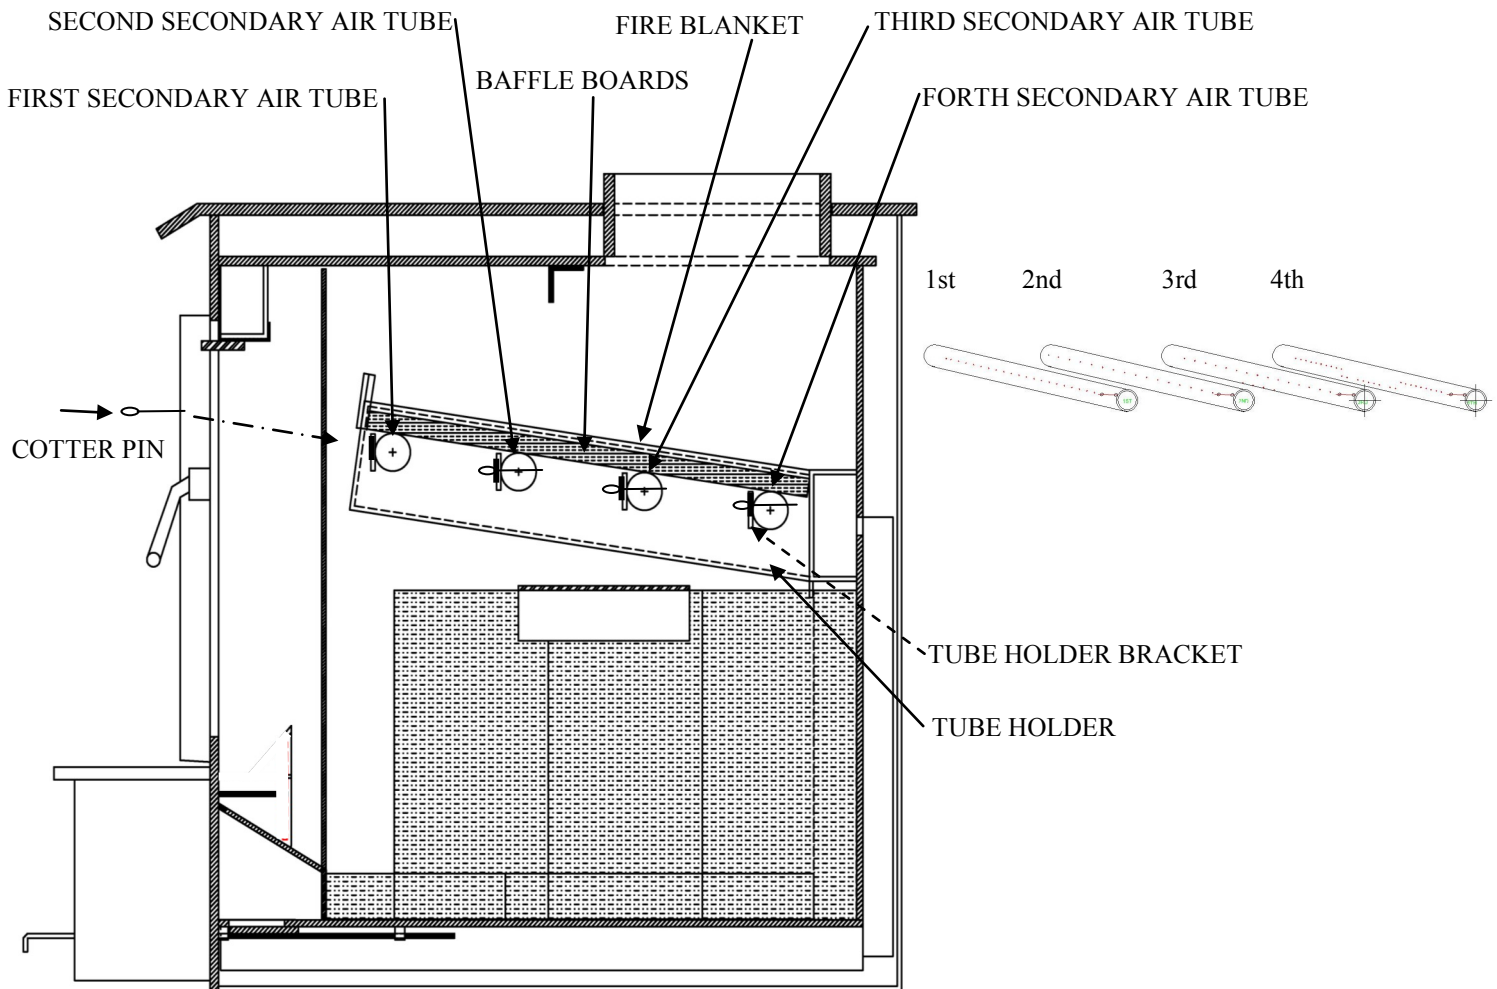

Figure 32
4. Remove air tube. The (4) secondary air tubes are located in top of burn chamber. On right side of tubes you will find a cotter pin. To remove air tube remove cotter pin and slide tube to left, it will drop down, slide tube to right it should come out. (See Figure 32).
4. The baffle boards run long ways front to rear. Lift and slide baffle board toward the front. (See Figure 32).